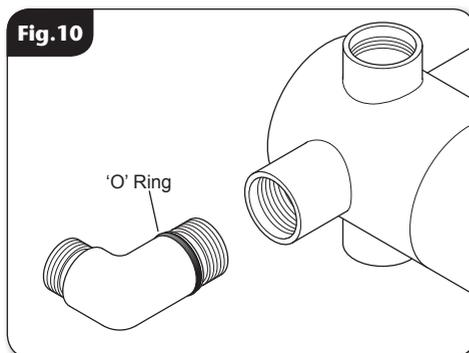

Fig. 10
- The inlet elbows allow for either rising, falling or rear entry hot and cold water supplies. The elbows have 'O' ring seals (**fig. 10**) to the body and do not require PTFE tape or other means of sealing.